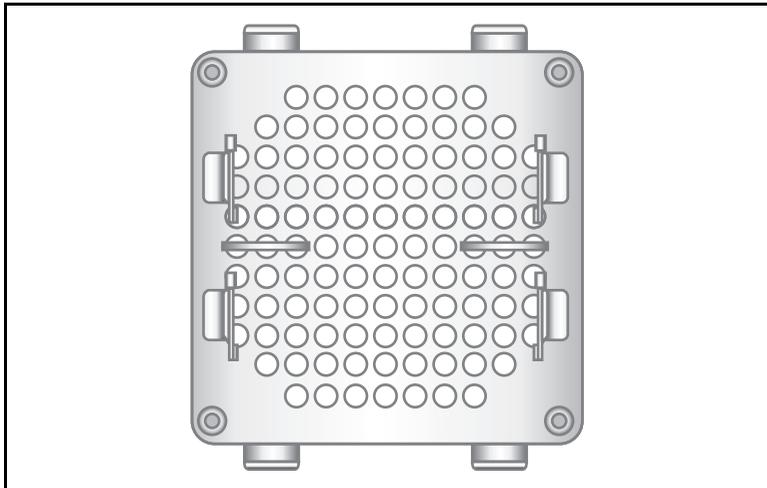

Figure 3 *Aligning the Microplate Platform*
3. Attach the Microplate Platform by centering the platform corner holes on the device shield plate (see Figure 3). Ensure the alignment arrows are pointing towards the front of the unit.